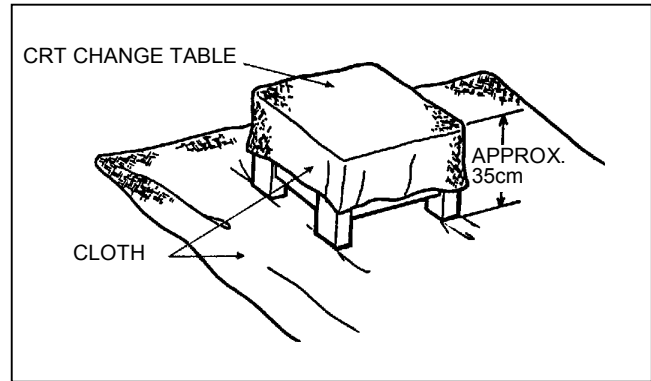

Fig. 3
- 1. Putting the CRT change table on soft cloth, the CRT change table should also be covered with such soft cloth (shown in Fig.3).
- * The CRT change table should preferably be smaller than the CRT surface, and its height be about 35cm. (Fig.3)